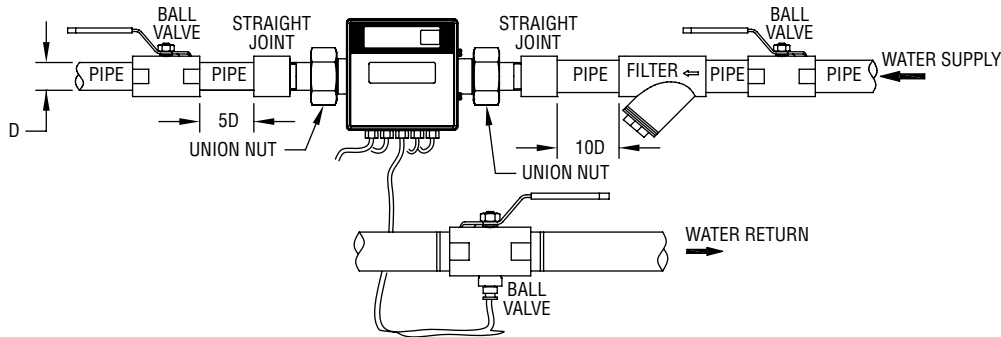
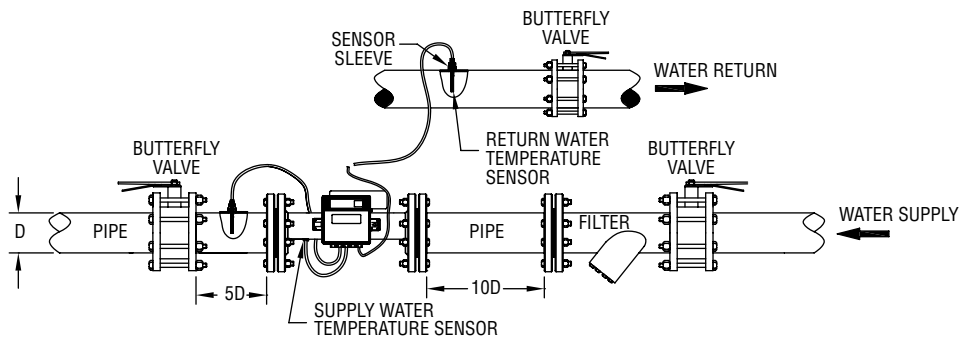

Figure 1: Installation Diagram for TUF-150/400
Figure 2: Installation Diagram for TUF-500/2000
1. Install the meter as shown in either Figure 1 or Figure 2.